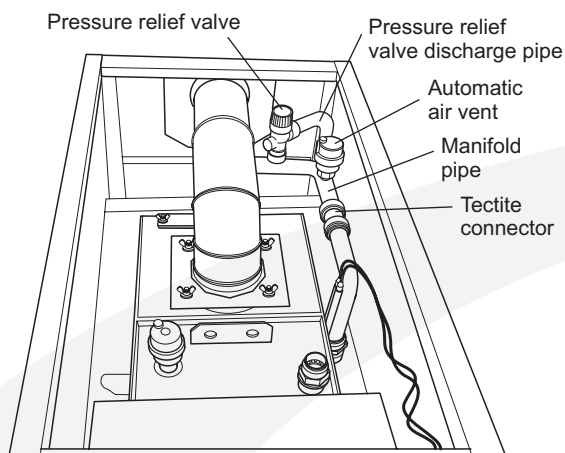

Figure 7-3: 15/21 top view
See Figures 7-3 and 7-4
8. Fit the pressure relief valve and automatic air vent onto the manifold pipe. Then push fit the manifold pipe end into the 22 mm push-fit connector on the boiler flow pipe. Refer to Figure 7-3.
Automatic air vent(s) are fitted to the top of the boiler (see Figures 7-3, 7-5 and 7-6). Check that the small cap on the top of each air vent is screwed on fully, then unscrew it one complete turn - the cap remains in this position from now on. The procedure for filling the sealed system is as follows: